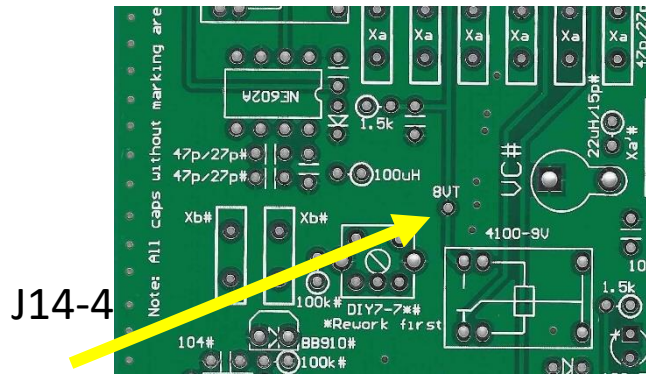

Figure 7
- J14 – 4 Connect to +8VT – See Figure 7